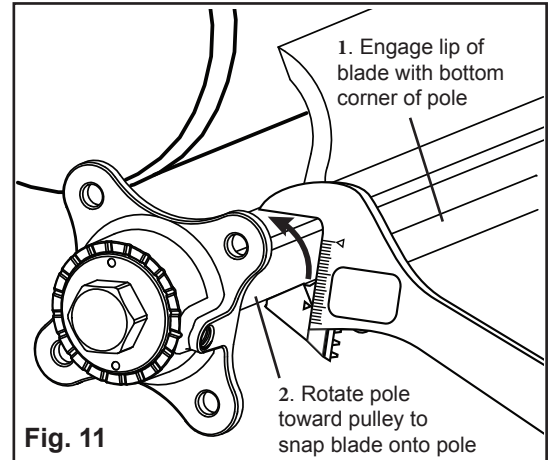

Fig. 11
18. Attach Cleaning Blade (Fig. 11).